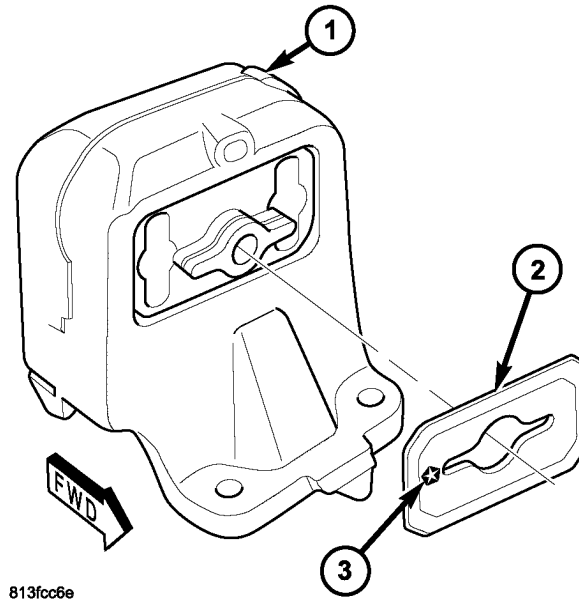

Fig. 1 ENGINE MOUNT
4. Raise the engine with the jack stand until the right side through bolt becomes free. Remove the right side bolt. Raise the engine far enough to clear the frame bracket and allow the isolator pad, p/n 55366020AA to be inserted. Insert the isolator on the mount with the Pentastar logo facing the front of the vehicle. (Fig. 1). Lower the bracket and align the mount with the frame bracket and push the bolt through the isolator and bracket with the threads at the rear.